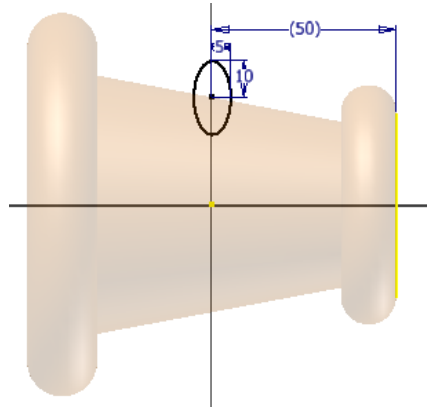

Figure 18-54 Ellipse created on the XY plane
1. Define a new sketch plane on the XZ plane and then create an ellipse, as shown in Figure 18-54. Note that the center point of the ellipse should be coincident with the edge of the base surface.